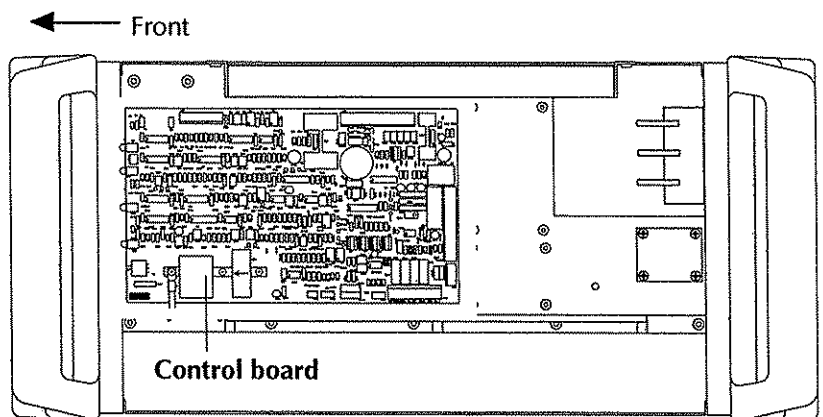

Figure 2 Top View - Powermax800 w/o Cover
4. Locate the control board located at the top of the power supply - Fig. 2.